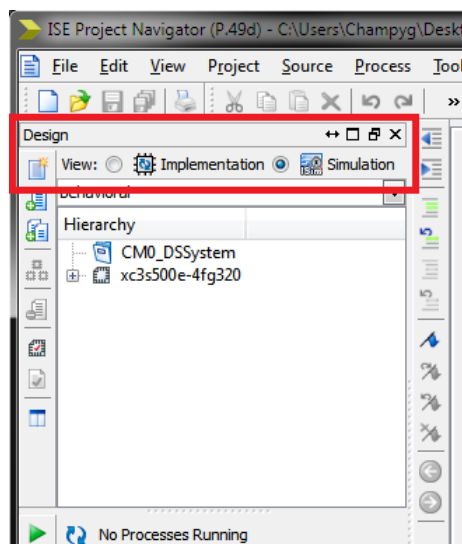

FIGURE 11 - SWITCHING TO SIMULATION VIEW
3.1. In the top of the Design View window, select the "Simulation" radio button. This can be difficult to find, so see Figure 11 below for reference.